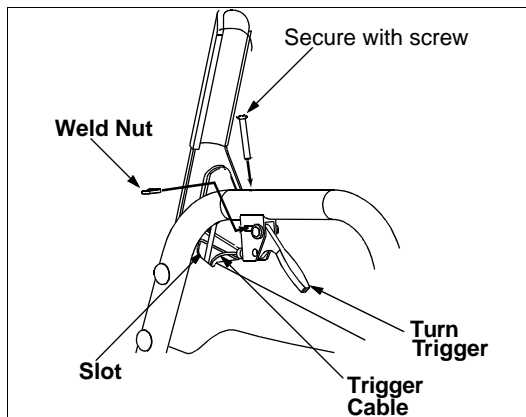

Figure 13
- Place the right turn trigger in position underneath the right handle. Secure with screw and weld nut from group H of the hardware pack. See Figure 13. You will need a phillips screwdriver for tightening the screw. Repeat on left side.